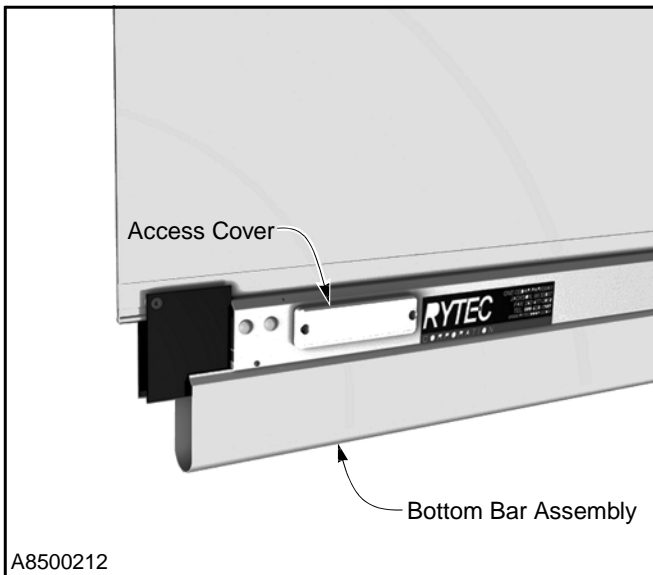

Figure 31
1. The kill switch is mounted near the coil cord end of the the bottom bar assembly. To access the switch, first remove the access cover. (See Figure 31)